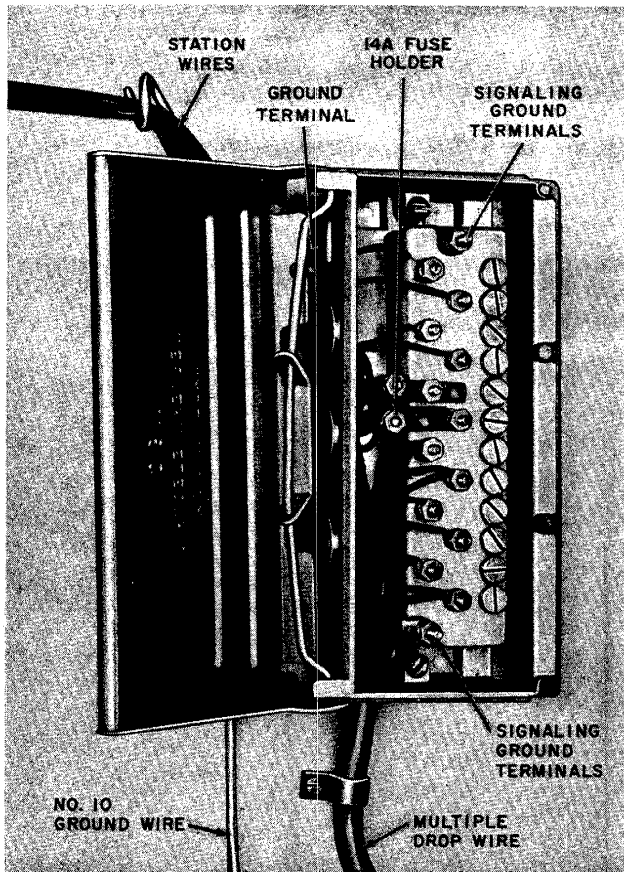

**Fig. 6—128A1A-2 Protector Installed on a Metallic Water Pipe**
**4.05** The 90A Bracket is installed on the 128A1A-2 Protector as outlined in 4.02. Fig. 6 illustrates a 128A1A-2 Protector installed on a metallic cold water pipe using a 90A Bracket.